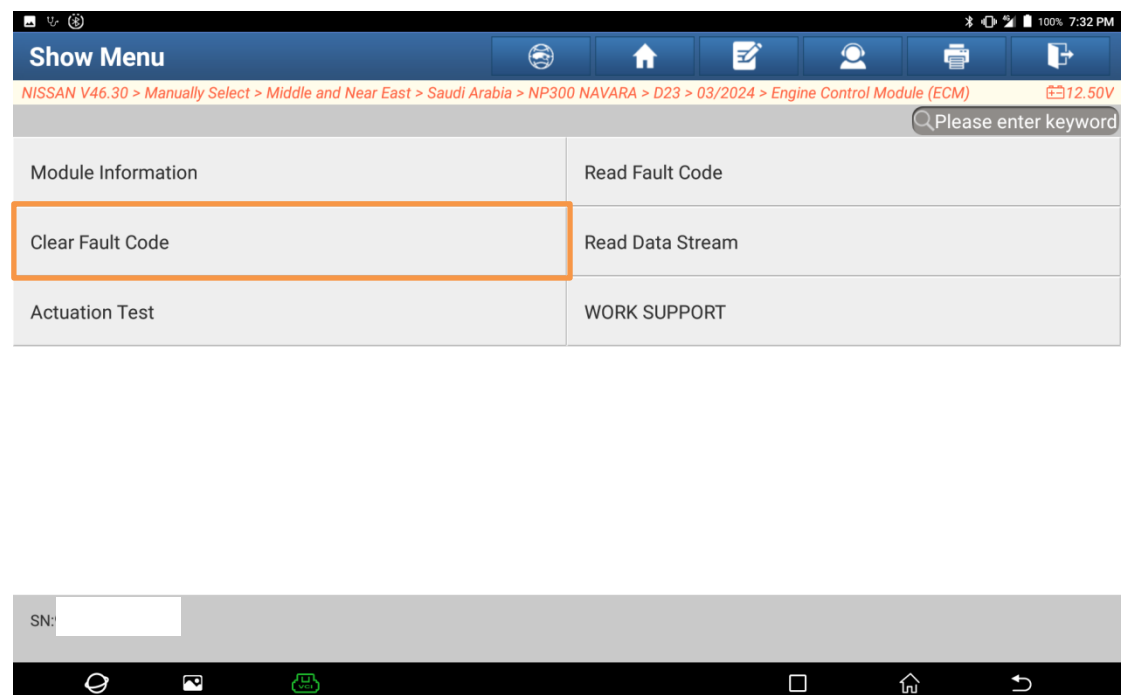

Figure 24
15. Exit to the ECM menu interface and choose [Clear Fault Code] (Figure 24). Click "Yes" and then click "OK" to clear the DTC information.